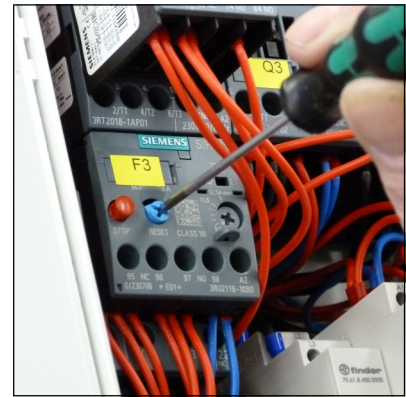

Fig. 3
- Reset the motor protection switch by pressing the blue reset button (Fig. 3).